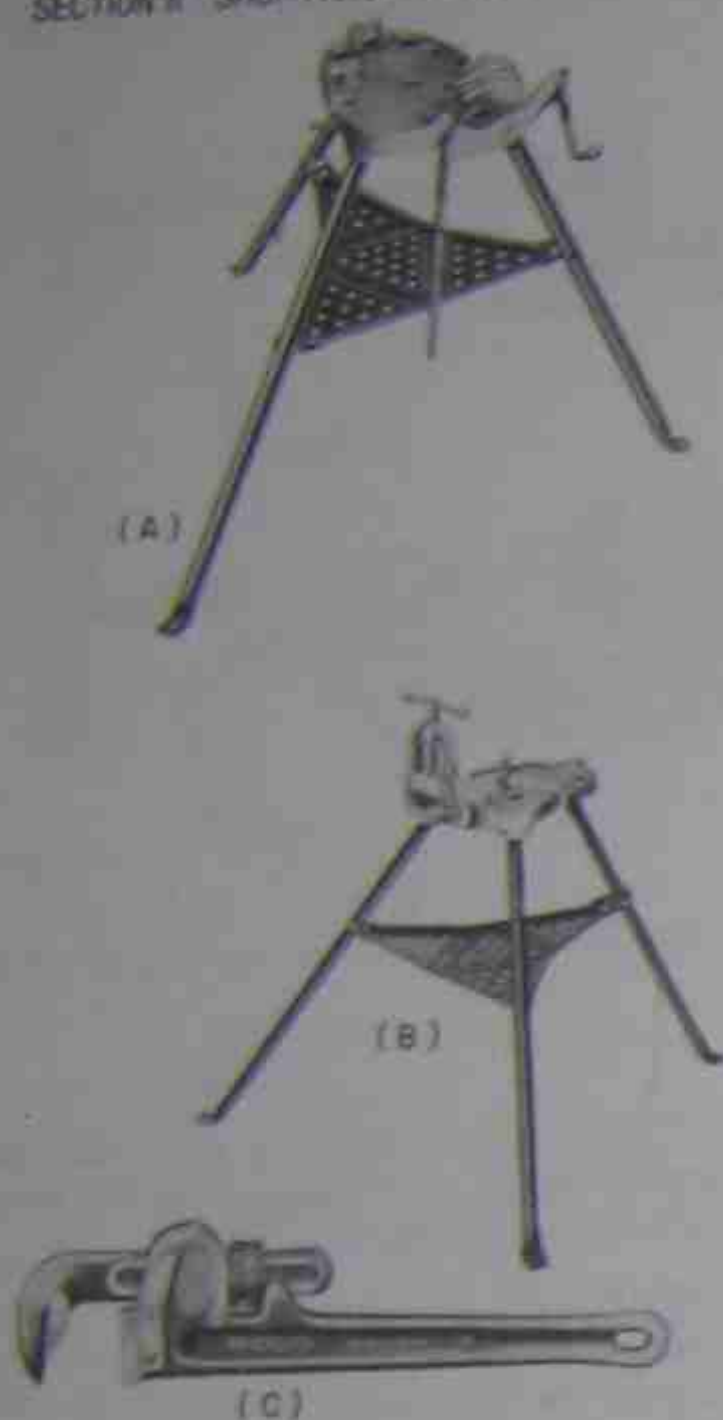

Figure 6-37. (A) Chain vise. (B) Yoke vise. (C) Pipe wrench. Courtesy Ridge Tool Company, Elyria, OH
- Holding tools such as the *chain vise*, *yoke vise*, and *pipe wrench*, Figures 6-37.